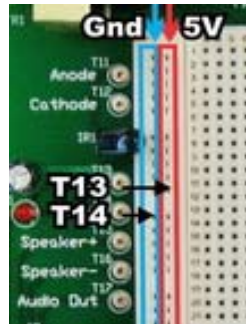

Figure 3 – Connections of T13 and T14 on the Breadboard
6. Connect **T13** and **T14** to the extended **5 V** and **Gnd** on the breadboard respectively. This is shown in Figure 3. These connections allow you to control the music playback using the push buttons **PB1**, **PB2**, **PB3**, and **PB4** on the ME3100 Analog Circuit Design kit.